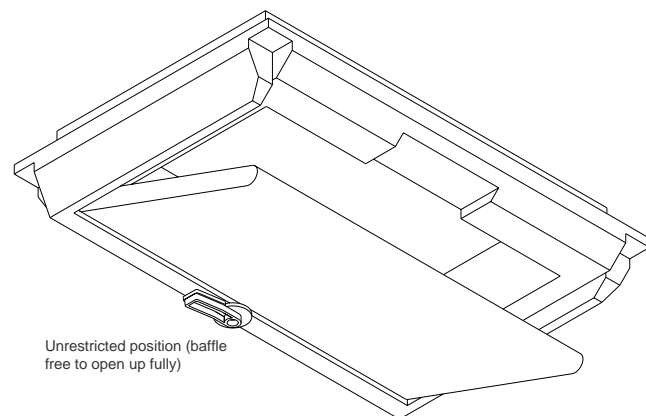
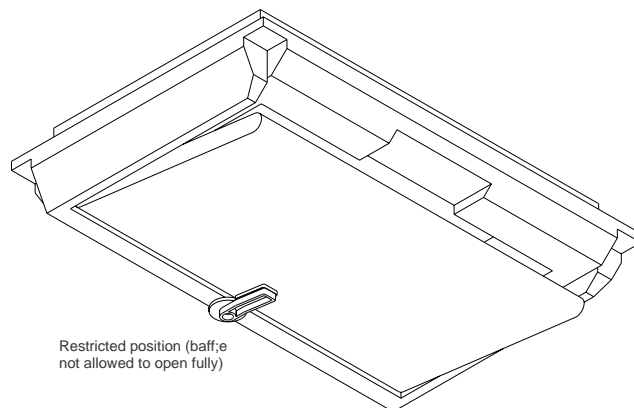

Figure 6 Standard C1 inlet (unrestricted) for normal operation
Figure 7 Inlet restrictor rotated to restrict the baffle opening (winter only)
The Damper Support/Inlet Restrictor serves two purposes: (1) It supports the "hinged" edge of the baffle (see Figure 6), and (2) it can be rotated to restrict the opening of baffle (see Figure 7). In rooms with high humidity and freezing outdoor temperatures, some frost may tend to build up on the inlet. In a room with several inlets, you may notice that some inlets tend to freeze closed. As more ventilation comes on in the room, the result is the unfrozen inlets tend to open up far more than the inlets that are frozen. This can result in dumping cold fresh air onto a group of animals. By restricting the opening of the baffle, we can "help" the frozen inlets open by creating a higher static pressure in the room. As in the case of the inlet lock, the restrictor should only be used in this manner in the winter. Warranty will not be given on motors that have failed because of improper use of the inlet restrictor.